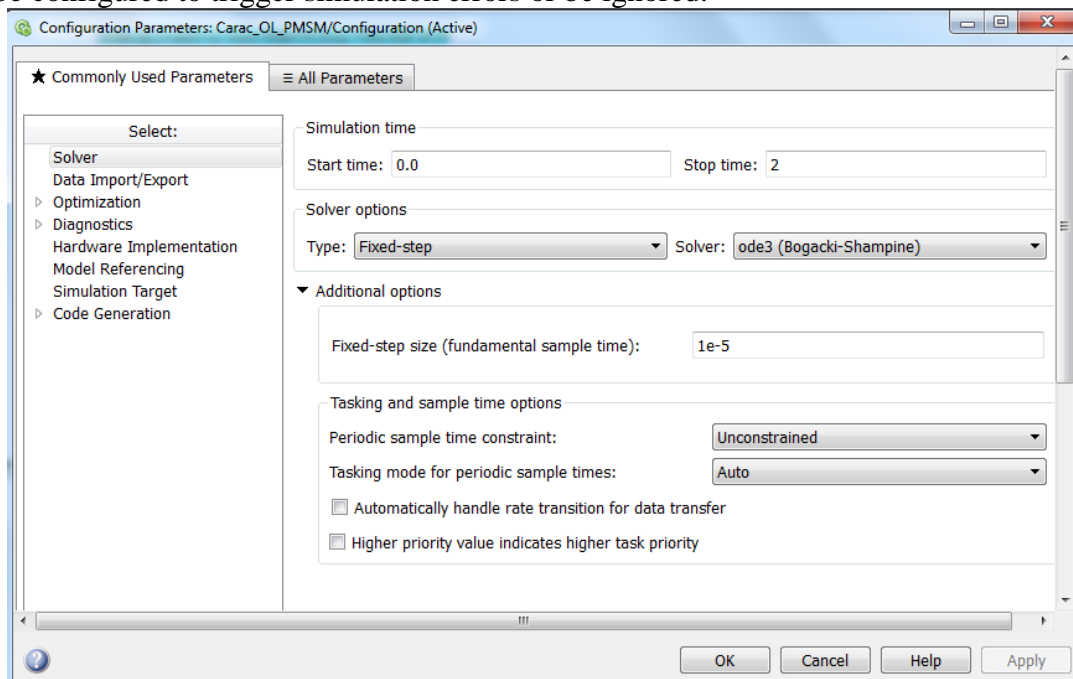

Figure 13 - Configuration Parameters window
**Configuration Parameters** or on the icon to open the simulation configuration window, as shown in Figure 13. Select the pane Solver. By default, the solver is automatically chosen by Simulink and only the start and stop times can be configured. The solver can be chosen and also the step type (fixed or variable). In the pane Diagnostics, various sources of errors can be configured to trigger simulation errors or be ignored.